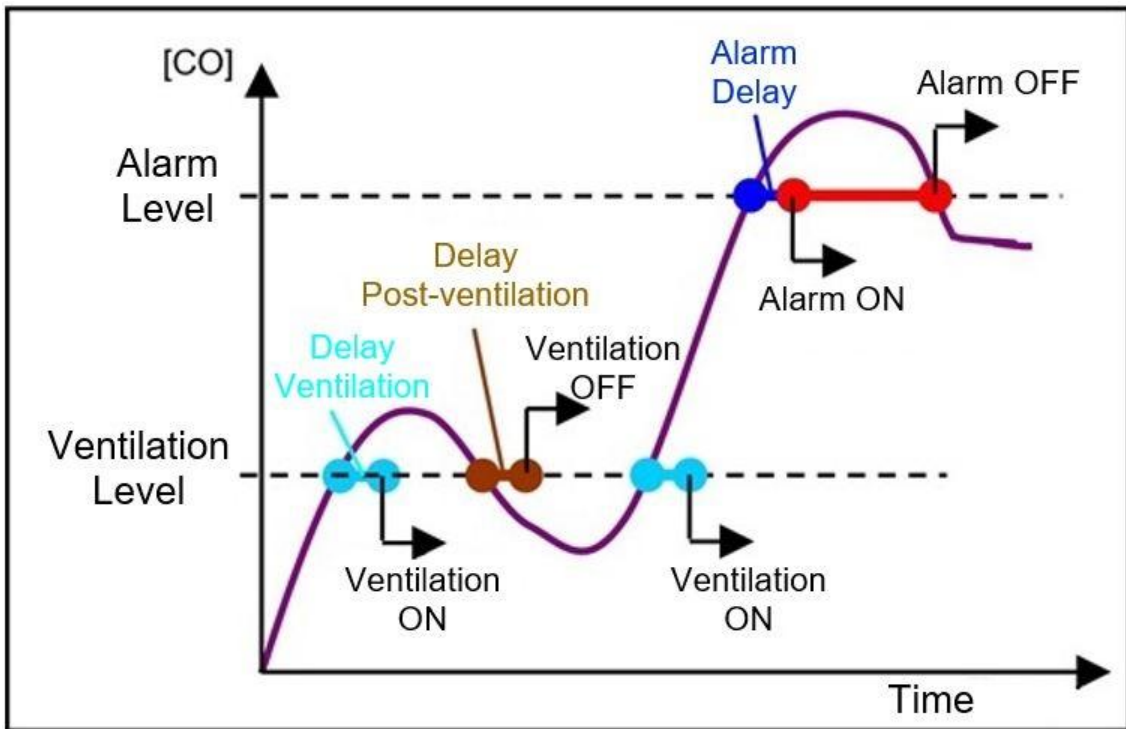

Figure 1: Activation and deactivation of ventilation and alarm
*Figure 1* is valid for **MCO120** model and shows how the ventilation 1 and alarm system act over time according the toxic gas concentration level measured.